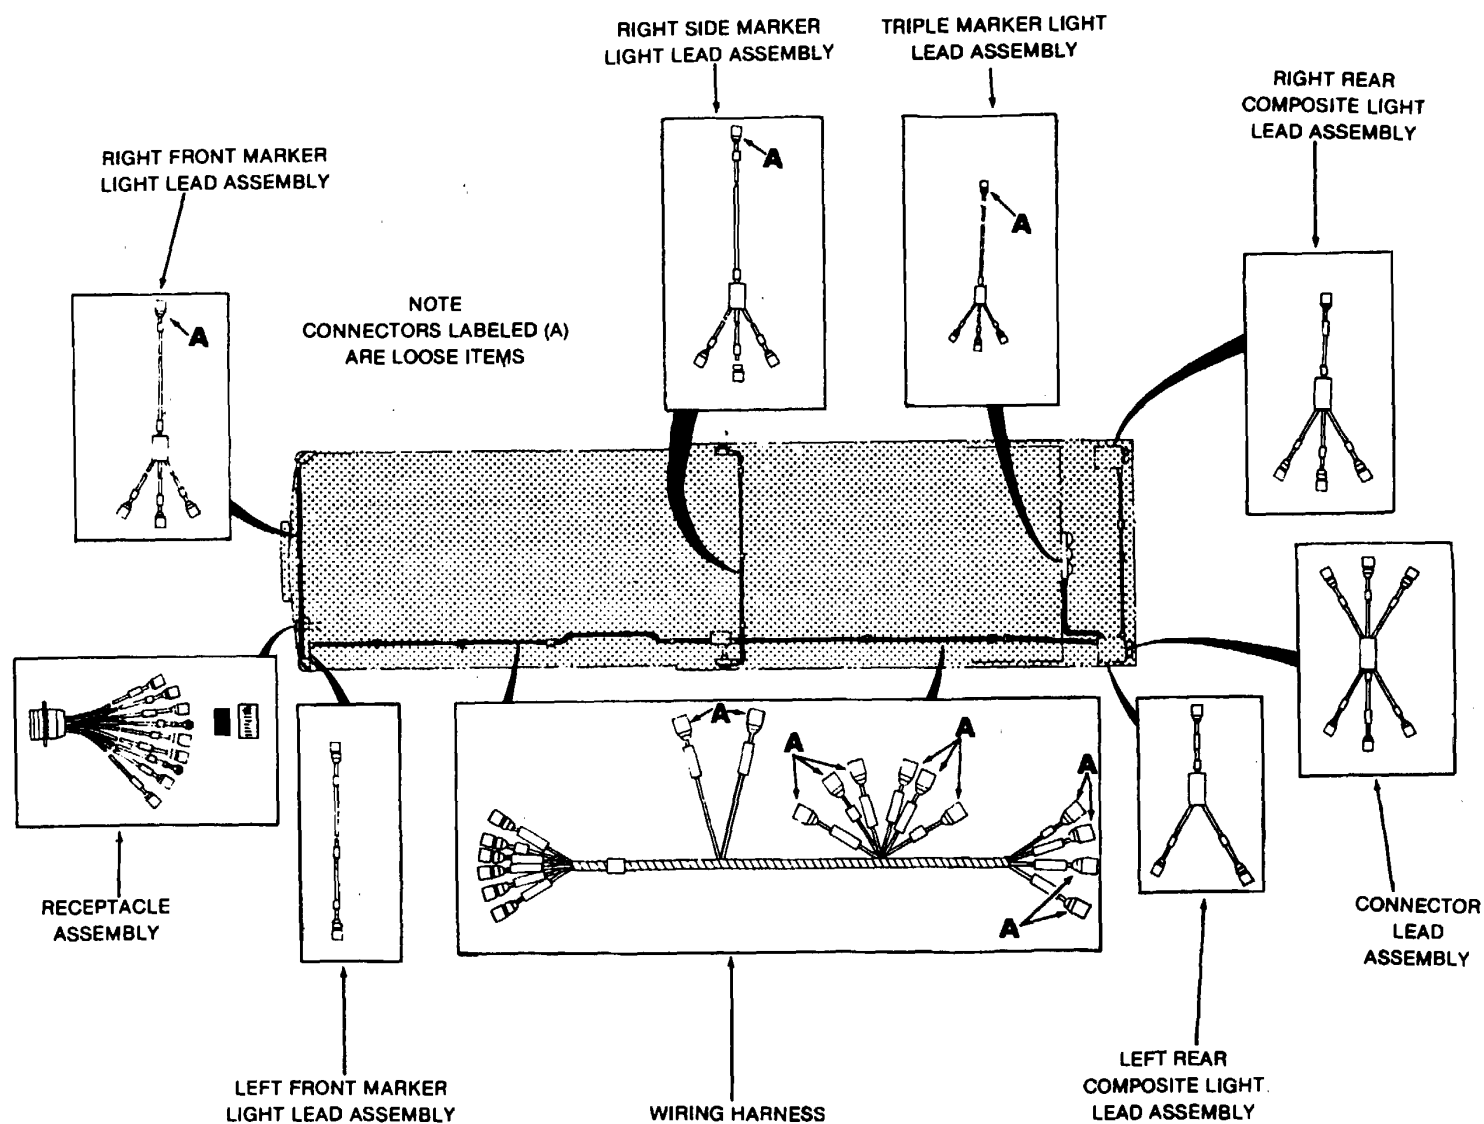

Figure 4-8. Wiring Harness and Electrical Lead Installation
(1) *Receptacle Assembly.* The receptacle mounted on the left front side of the semitrailer, fig. 4-8. It connects the electrical system of the towing vehicle with that of the semitrailer. The main wiring harness of the semitrailer connects to the receptacle.
(2) *Wiring Harness.* This harness runs the tire length of the semitrailer through conduit, the rear composite light box, to the right rear composite light box, fig. 4-8. It connects to various leads which in turn connect to the lights on the semitrailer.
(3) *Rear Triple Marker Light Lead Assembly.* This lead is threaded from the triple marker box through conduit to the left composite light box, fig. 4-8. There it connects to one of six leads of the connector lead assembly.
(4) *Right Front Marker Light Lead.* This lead is threaded from the right front marker box through conduit to the left side of the semitrailer, fig. 4-8. There it connects into the receptacle wiring, the wiring harness and lead from the left front marker light.
(5) *Left Front Marker Light Lead Assembly.* This lead connects to the left front marker light and to the right front marker light lead, fig. 4-8.
(6) *Right Side Marker Light Lead Assembly.* This lead is threaded from the right center marker light box through conduit to the left center marker light box. There it connects to the wiring harness and to the left center marker light, fig. 4-8.
(7) *Right Rear Composite Light Lead Assembly.* This lead is located in the right rear composite light box. It connects to the two marker lights and to the composite light, fig. 4-8.
(8) *Left Rear Composite Light Lead Assembly.* This lead (fig. 416) is located in the left rear composite light box. It connects to the wiring harness in two places and to the left composite light, fig. 4-8.
(9) *Connector Lead Assembly.* This lead is located in the left rear composite light box, fig. 4-8. It is made up of six different leads, of which two connect to left rear marker lights, two to the wiring harness, one to triple marker light lead, and one to left composite light.
(f) Install new terminal onto lead. Connect the marker light lead assembly to connector lead assembly, fig. 4-8.